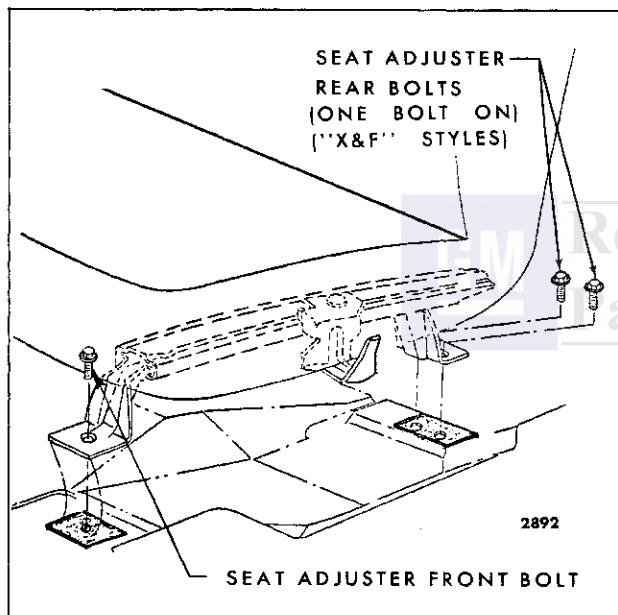
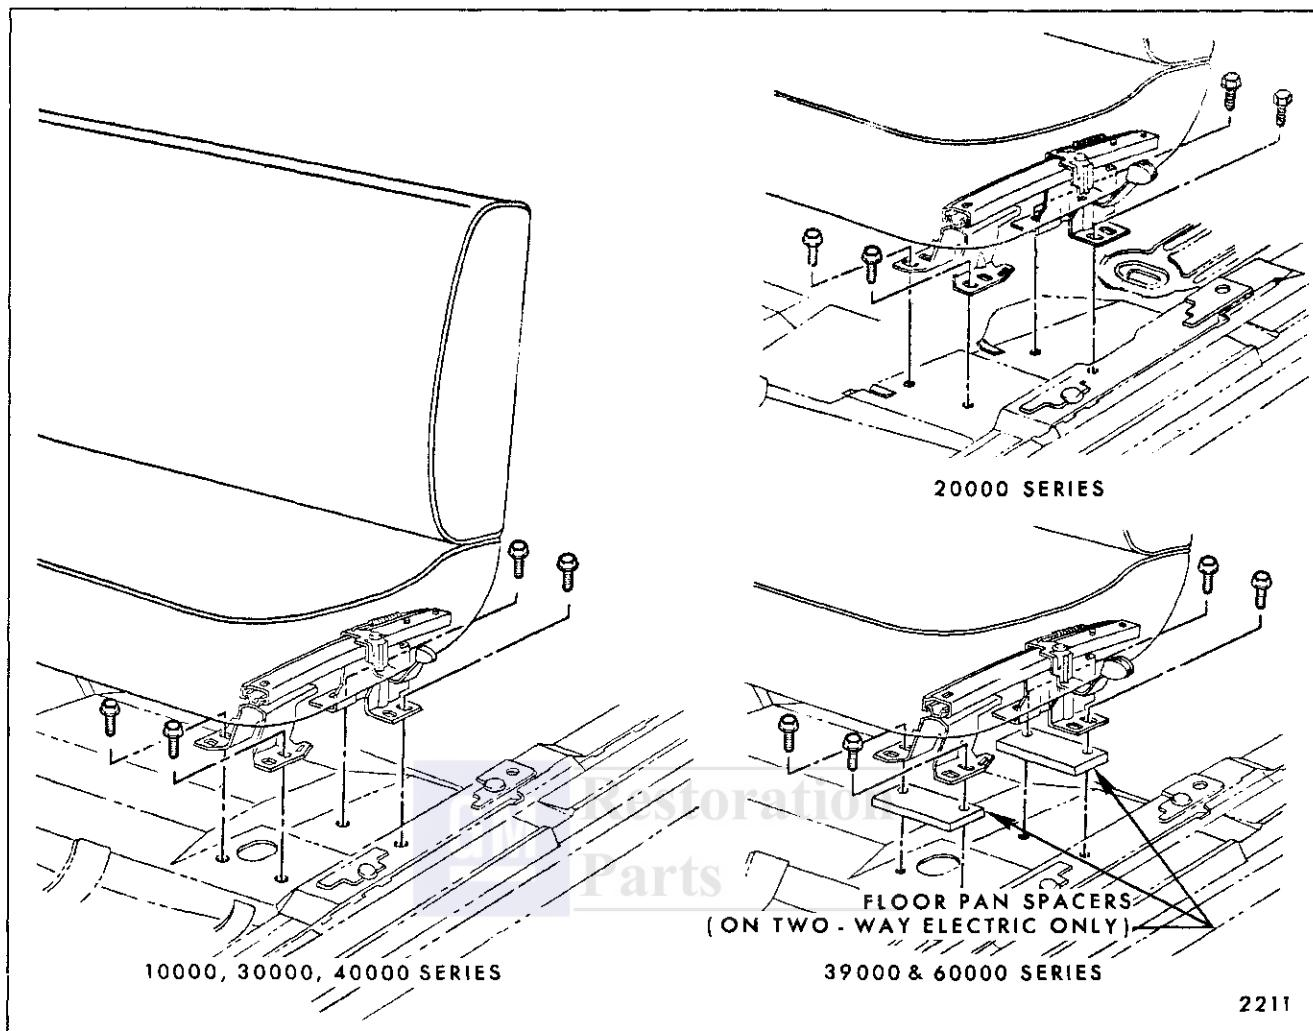

Fig. 15-3—Seat Adjuster Floor Pan Attachment — "A, F, X & Z" Full Width Seat
Fig. 15-4—Seat Adjuster Floor Pan Attachment - "B, C & E" Full Width Seat
The full width manually operated seat assembly incorporates manually operated seat adjusters to provide fore and aft movement of the seat. When the lever at the left seat adjuster is moved forward (rearward on "F" Body Styles), the seat adjusters unlock, permitting horizontal travel of the seat. When the seat is in the desired position and the locking lever is released the seat is locked. All seat adjusters are secured to the floor pan by nuts installed on floor pan anchor plate studs or bolts installed into anchor nuts in the floor pan (See Figs. 15-3 and 15-4).
4. At rear of adjusters, remove adjuster-to-floor pan rear attaching nuts or bolts (Fig. 15-3 and Fig. 15-4).
4. Remove seat adjuster-to-floor pan rear attaching bolts (Figs. 15-3 and 15-4).
5. Operate seat to full rearward position. Remove adjuster-to-floor pan front attaching bolts (Fig. 15-4). Tilt seat assembly rearward sufficiently to disconnect seat harness feed connector and detach harness from clip on floor pan. On styles with seat back cigar lighter, seat back courtesy lamps or seat back vanity lamp, disconnect electrical feed wire or wires. With aid of a helper remove seat assembly from body.